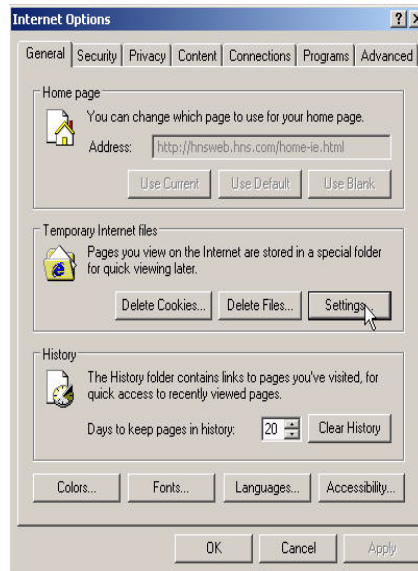

Figure 32: Selecting settings option
4. In the Temporary Internet Files box, click **Settings** as shown in Figure 32.